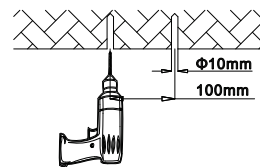

Figure 3
1. Mark the mounting surface using a marker or sharp tool, then drill the hole (see Figure 3).